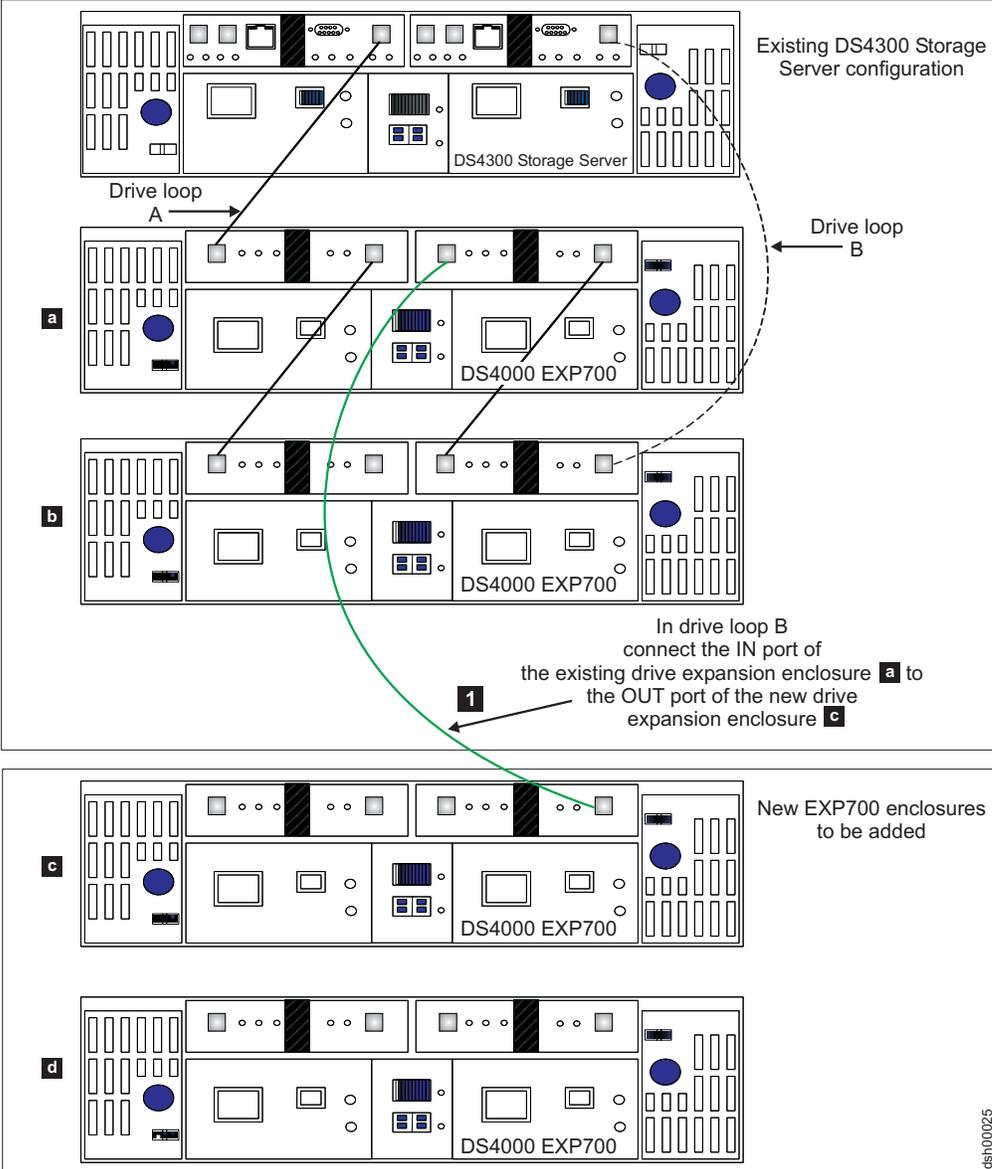
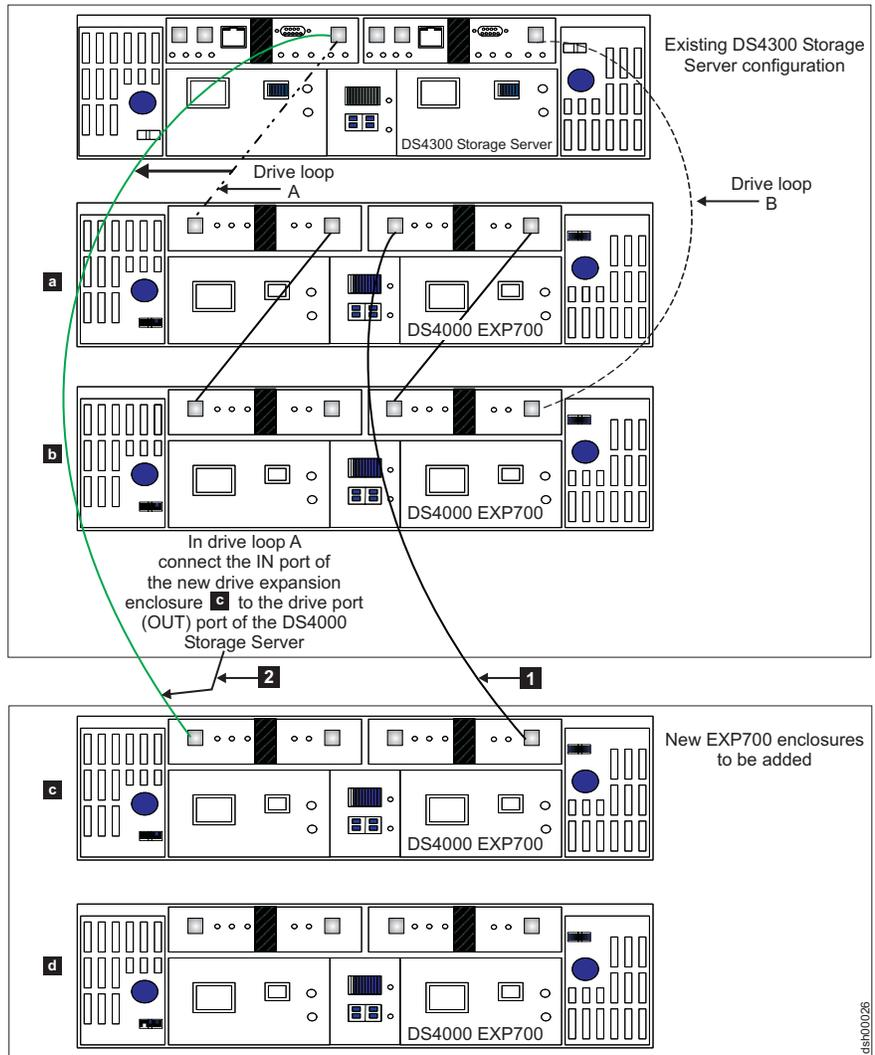
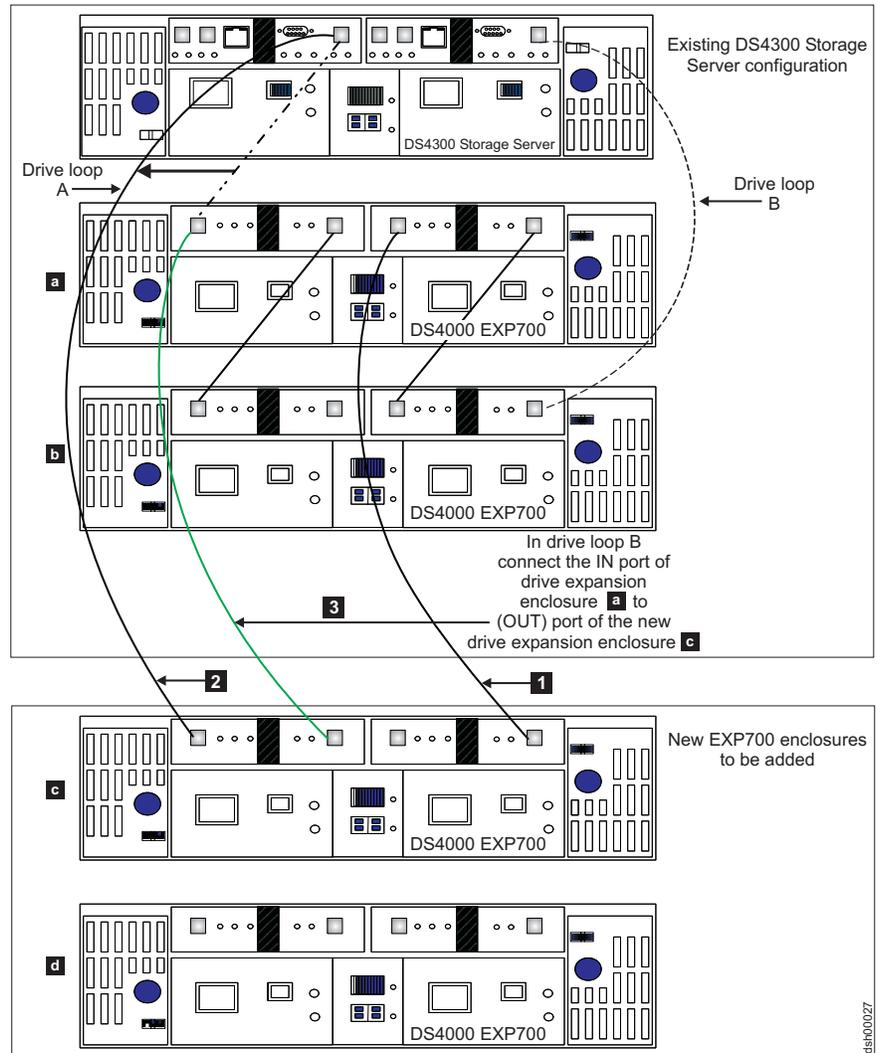

Figure 34. Cabling a single drive enclosure to the beginning of a functioning drive loop (step 1 of 3)
Figure 35. Cabling a single drive enclosure to the beginning of a functioning drive loop (step 2 of 3)
Figure 36. Cabling a single drive enclosure to the beginning of a functioning drive loop (step 3 of 3)
It is possible to add new storage expansion enclosures to either the beginning (top) or end (bottom) of a functioning storage expansion enclosure drive loop. The cabling instructions illustrated in Figure 34 on page 91, Figure 35 on page 92, and Figure 36 on page 93 describe cabling a DS4000 EXP700 Storage Expansion Enclosure to the beginning (top) of a redundant drive loop of a functioning DS4300 Storage Server (model 60X or 60U). IBM does not recommend that you add storage expansion enclosures in this manner, especially if there is insufficient rack space to allow the methodical, uncluttered, and uniform fibre channel cabling of such new enclosures. Without proper planning, disadvantages of adding expansion units in this manner include cable management issues that contribute to avoidable troubleshooting difficulties. (For the diagram of a properly planned addition of a new expansion enclosure at the beginning (top) of a functioning storage expansion enclosure drive loop, see Figure 30 on page 76.)
- ___ Step 2. Extend one of the drive loops (that is, drive loop B) in a DS4000 Storage Server redundant drive loop pair by connecting the IN port of the first (existing) storage expansion enclosure to the OUT port of the new storage expansion enclosure as shown in Figure 34 on page 91.
- ___ Step 5. In the other drive loop (that is, drive loop A) in a DS4000 Storage Server redundant drive loop pair, remove the connection from the DS4000 Storage Server drive loop port to the IN port of the first storage expansion enclosure and connect it to the IN port of the new drive enclosure as shown in Figure 35 on page 92.
- ___ Step 7. In drive loop A, cable the new drive enclosure's OUT port to the IN port of the first enclosure in the already functioning storage expansion enclosure drive loop as shown in Figure 36 on page 93.